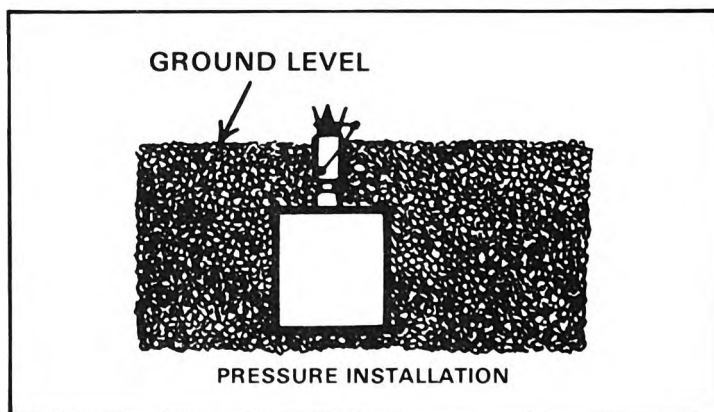

Figure 2.
(1) Dig a hole about 6 inches deep and 5 inches in diameter.
(2) Place the mine in the hole.
(3) Cover the mine up to the bottom of the release pin ring with spoil from the hole, pressing it firmly into place around the sides of the mine (figure 2).